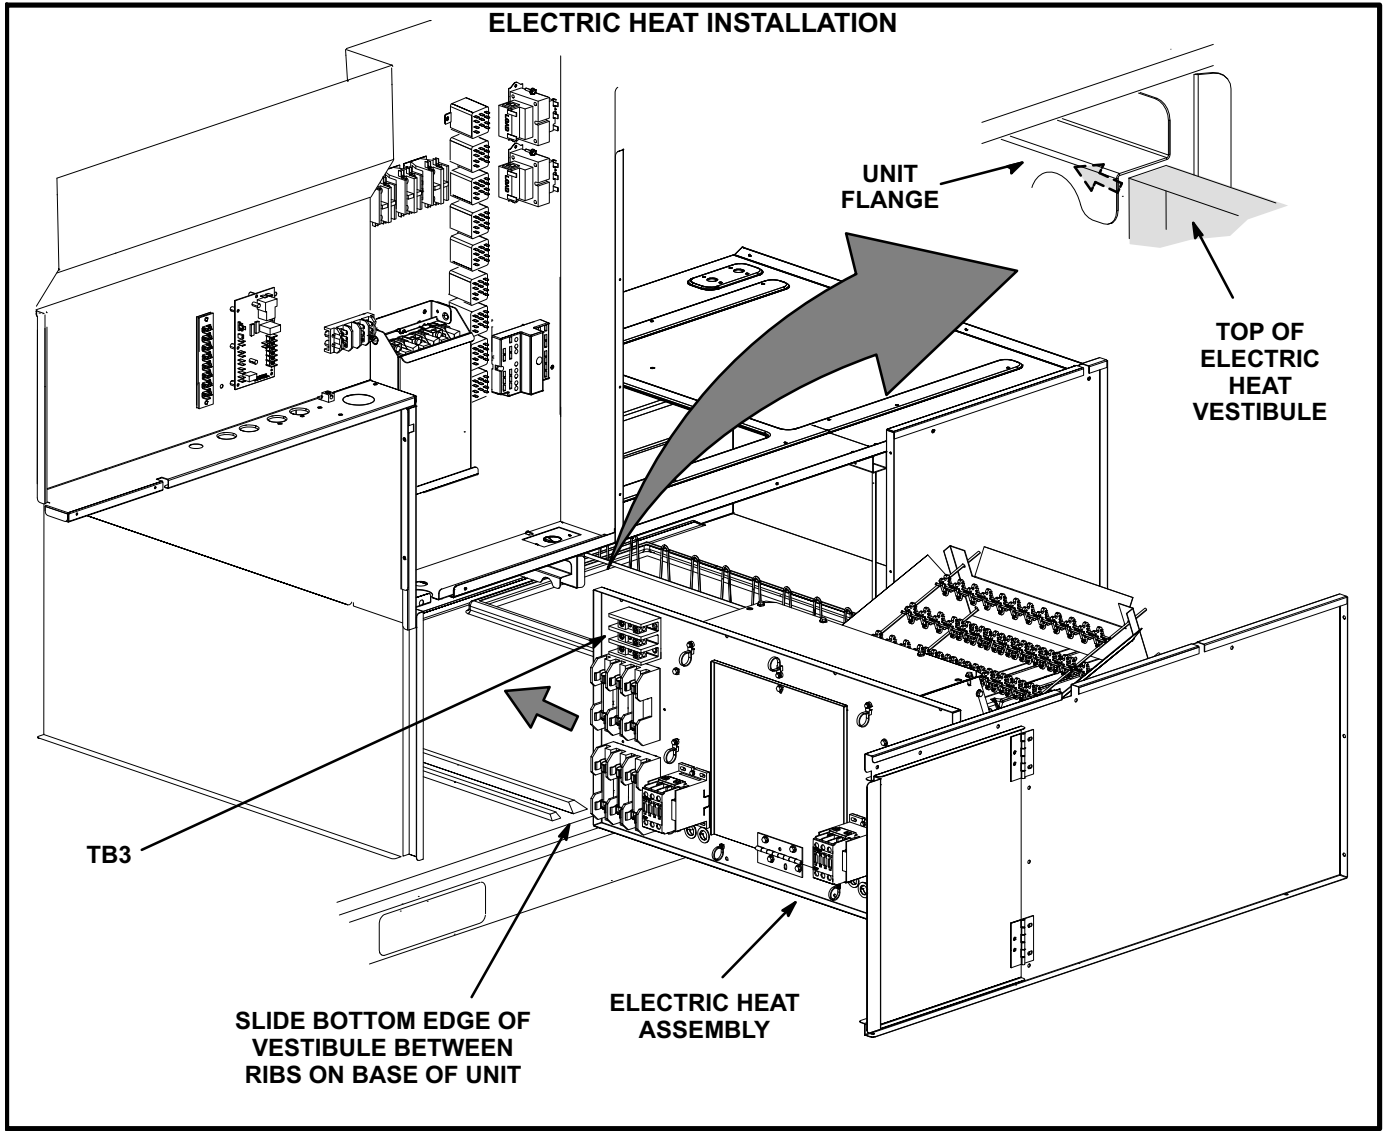

FIGURE 2
- 5- Insert electric element heat assembly PARTLY into the unit. Make power wiring connections to TB3 on electric heat assembly. See figure 2. Slide assembly the rest of the way into the unit. Secure assembly using screws provided.